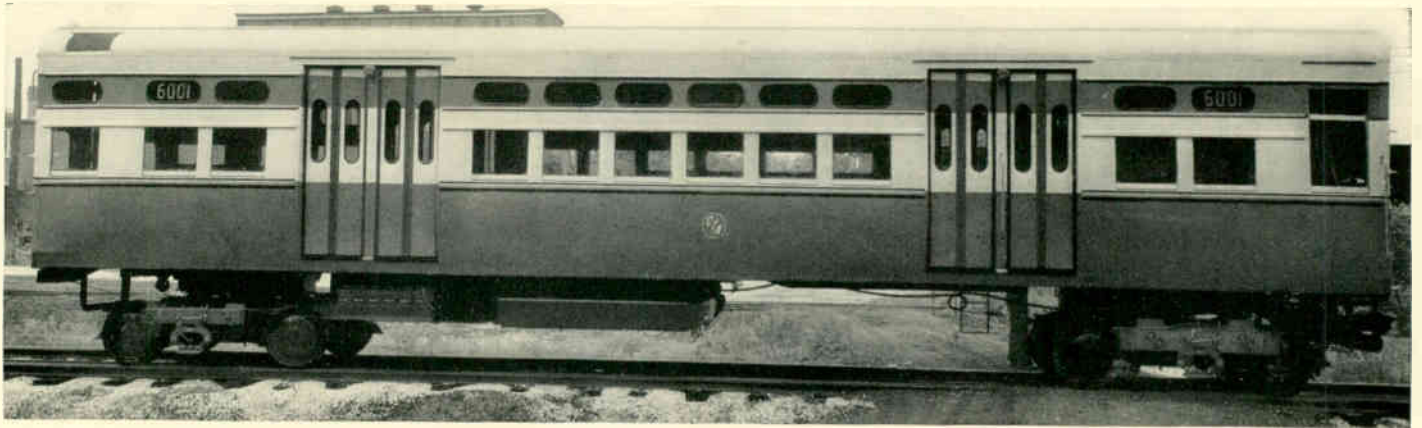

Fig. 1—The lightweight rapid-transit car gives the rider comfort, speed, and safety; the operator gets efficient, economical operation.
To simplify the task of lightning-arrester application, Evans and Beck1 presented a method for estimating maximum dynamic voltage from curves based on the ratios of system impedances. Their curves, shown in Fig. 1(a), give the maximum line-to-ground voltage as a percent of the base line-to-line voltage in terms of the ratio of  $R_0$  (zero-sequence resistance) to  $X_1$  (positive-sequence reactance) and the ratio  $X_0$  (zero-sequence reactance) to  $X_1$  for a system with no positive- or negative-sequence resistance. All of these quantities are the equivalent impedances seen when looking into the system from the point of fault. The base voltage is usually taken to be 1.05 times the normal line-to-line voltage to allow for emergency operation.
At each point in Fig. 1(a) the type of fault and amount of fault resistance that will give maximum voltage is used to determine the voltage for given system impedance ratios. The curves from the points labeled A to the  $X_0/X_1$  axis are determined by the phase-a voltage during a double-line-to-ground fault on phases b and c. From point B to the  $X_0/X_1$  axis, the phase-b voltage during a single-line-to-ground fault on phase a determines the curve. The remaining parts of the curves are determined by the phase-c voltage during a single-line-to-ground fault on phase a. In applying the curves, any phase can be designated as phase a so long as a positive-sequence phase rotation is maintained.
Fig. 1—Line-to-ground voltage charts for grounded systems with dynamic voltage as a percentage of the base line-to-line voltage. The unshaded areas are the usual values that can be expected on effectively grounded systems. The curves at (a) are for a system with no positive- or negative-sequence resistance. Those at (b) are for systems with positive- and negative-sequence resistance equal to  $0.1X_1$ ; those at (c) are for sequence resistance equal to  $0.2X_1$ .
0.1  $X_1$  in Fig. 1(b) and 0.2  $X_1$  in Fig. 1(c)—have been designed to supplement the original.1 This positive- and negative-sequence resistance causes the maximum voltage to decrease for those portions of the curve determined by the phase-*c* voltage. The voltage increases slightly on those portions of the curves determined by the phase-*b* voltage and decreases slightly on the portions of the curve determined by the phase-*a* voltage.
The curves of Fig. 1 give the maximum voltage across the arrester for any fault to true ground at the arrester location. But some consideration must be given to the possibility of a fault at another location or a fault to arrester ground. Under certain system conditions, either of these may cause a higher voltage across the arrester than is indicated by the curves.
A different fault location can give a higher voltage when a higher  $R_0/X_1$  and/or  $X_0/X_1$  exist at another point in the system, or by the voltage-multiplying effect of an unloaded transmission line. By checking the system impedance ratios around the arrester location the possibility of a higher voltage from a higher impedance ratio can be determined. The maximum error in the curves due to the voltage-multiplying effect of a transmission line occurs when arresters are connected to ungrounded transformer banks at the end of a radial high-voltage line with a fault near the source end of the line. The curve of Fig. 2 gives an indication of the increase in voltage that can occur over that indicated in Fig. 1 at the fault location in terms of the length of line between the arrester location and the fault in miles for an  $X_0/X_1$  ratio of three and  $R_0/X_1$  ratio of one at the fault location. The increase in voltage on an actual system is less than this because the effect of loads and transformer magnetizing current is neglected in Fig. 2. For these cases, where  $X_0/X_1$  is less than three at the fault location, the values from the curve of Fig. 2 are too high.
This impedance should be used to compute the  $R_0/X_1$  and  $X_0/X_1$  ratios to use with the curves of Fig. 1 in finding the maximum voltage across the arrester during a fault to arrester ground. If no transformer neutrals are connected to the arrester ground  $jX_{0T}$  becomes infinite, and  $R_0 + jX_0$  is equal to  $3R_A + R_{0S} + jX_{0S}$ .
These curves should serve as a guide in the application of arresters to grounded systems. Some margin should be included to take care of the possibility of greater voltage for other fault locations in line with the above discussion. A system is said to be effectively grounded if the  $X_0/X_1$  ratio is not greater than three and the  $R_0/X_1$  ratio is not greater than one. This range, unshaded areas in Fig. 1, is always within the 80-percent curve with the exception of a small area at low values of  $X_0/X_1$ . Thus, the curves justify the present practice of applying arresters rated at approximately 84 percent (1.05 times 80 percent) of normal line-to-neutral voltage to effectively grounded systems.
transit version of the PCC car is provision for high-level platform loading. Two or three large doors on each side of the car hold the loading and unloading times to a minimum. And the maximum capacity of the car is increased to 180 passengers, 44 percent more than the standard car, while the number of seats is decreased by a longitudinal arrangement to 46, only 15 percent less than the standard car. The car is mounted on two 4-wheel trucks, which can be modified to accommodate the brake system necessary for the application. The wheels are either 26 or 28 inches in diameter, and may be all-steel or the resilient type used on the standard surface car. The rapid-transit car is 48 feet long and is equipped for multiple-unit operation. It weighs approximately 45 000 pounds empty. Seated load and maximum load are 52 000 and 70 000 pounds, respectively. Corresponding weights for the PCC car are: 36 000 pounds empty, 43 500 pounds seated, and 52 800 pounds maximum load. A profile view of the new car is shown in Fig. 1. These cars can be connected back to back to form a semi-permanently connected two-car unit. Units can be operated alone, or combined to make up trains of four, six, eight, or ten cars when traffic demands larger trains.
Fig. 1—A 6000-ampere assembly with bushing adapters suitable for bus running in line with the bushings. With adapters, the main bus can be run from the machine in any desired direction. Each bushing can accommodate a total of three transformers on line and neutral ends.
Bushing current transformers are especially suited where heavy currents and strong, stray magnetic fields are encountered under short-circuit conditions, because their toroidal construction prevents stray or leakage flux from impairing their accuracy. In this new application, the transformers are mounted over the condenser bushings to take advantage of the insulation inherent in the termination of the machine windings. Each transformer, embedded in moisture-resistant, thermosetting Fosterite compound is enclosed in a cast-aluminum case, which permits connecting any kind of bus on the line end. The secondary leads terminate in a compartment integral with this case. A typical assembly is shown in Fig. 1, and Fig. 3 shows a transformer being installed. The construction of these transformers gives excellent protection against moisture, high temperature, and vibration during shipment and installation, as well as in service.